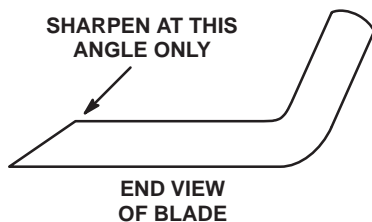

Figure 32
3. Examine the cutting edges of all blades. Sharpen the cutting edges if they are dull or nicked. Sharpen only the top side of the cutting edge and maintain the original cutting angle to ensure sharpness (Fig. 32). The blade will remain balanced if the same amount of metal is removed from both cutting edges.